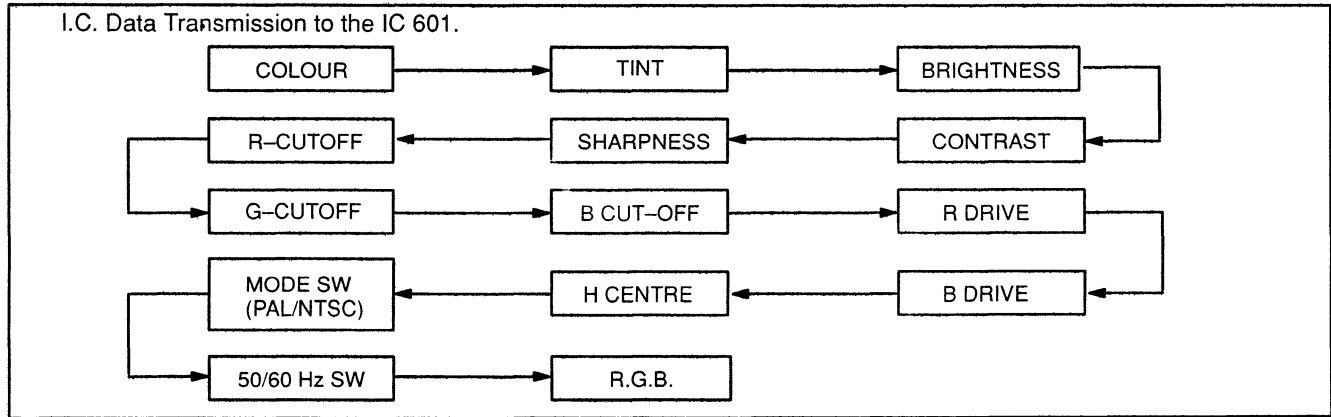

Fig. 4
1. Various control functions are possible via the I²C bus from the microcomputer IC1101 to VCJ IC601, as shown in Fig. 4.